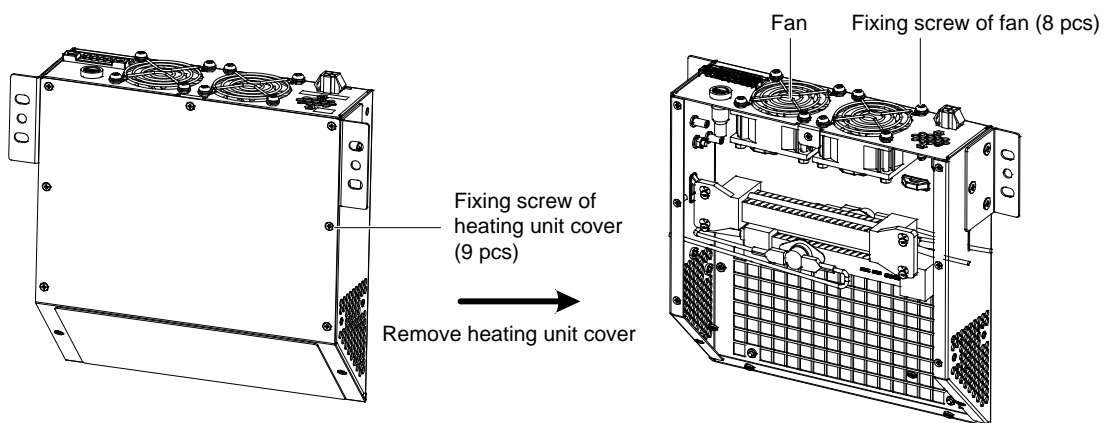

Figure 4-3 Position of fixing screws of fan
3. Use a cross screwdriver to loosen the nine fixing screws of the heating unit cover, and remove the heating unit cover, as shown in Figure 4-3.
4. Loosen the fixing screws (8pcs) of the fan (see Figure 4-3), and remove the faulty fan.